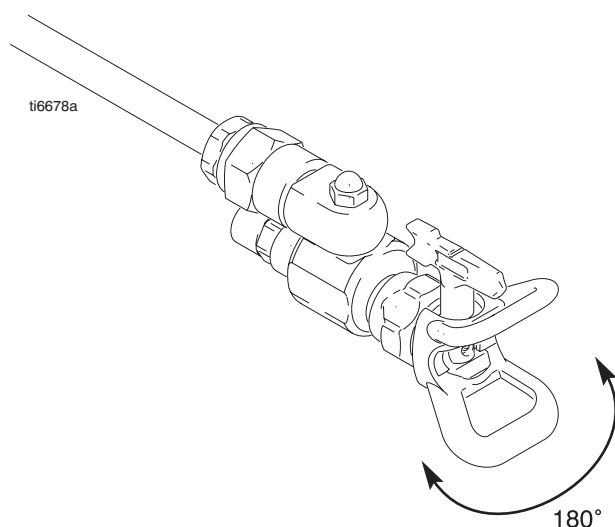
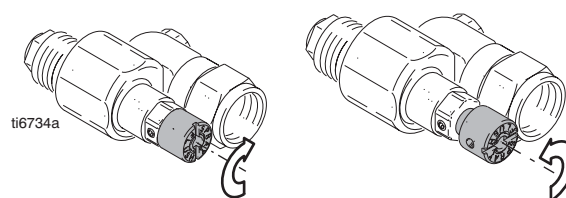

Fig.1 _____
Fig. 2 _____
Installing the Tip and Guard (Fig. 1 and Fig. 2)
- 1 Without the spray tip installed, start sprayer, turn the knob on the Low Overspray CleanShot Valve counter-clockwise to the FLUSH position (Fig. 2).
- 5 Turn the knob of the Low Overspray CleanShot Valve to SPRAY (Fig. 2).